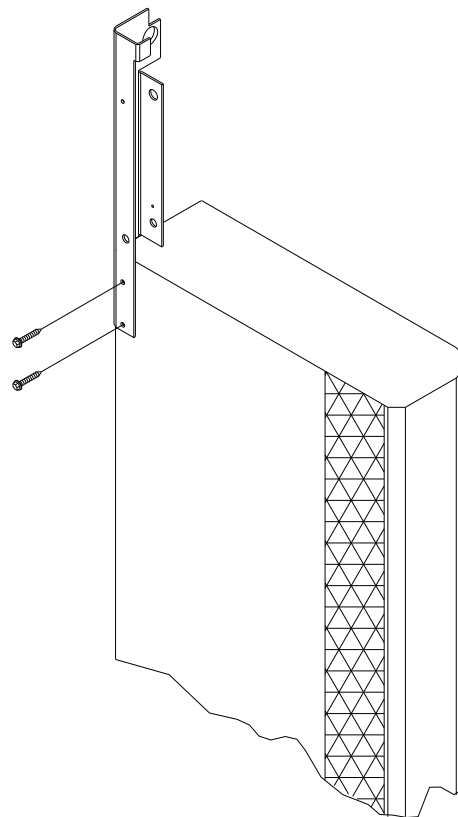

FIGURE 1
1. Before mounting side members, install the curtain top mounting brackets to side members at the top outside edge of the side members. Holes have been pre-drilled from the factory to locate the brackets. Install the two screws, making sure the brackets are on straight. (See Figure 1)